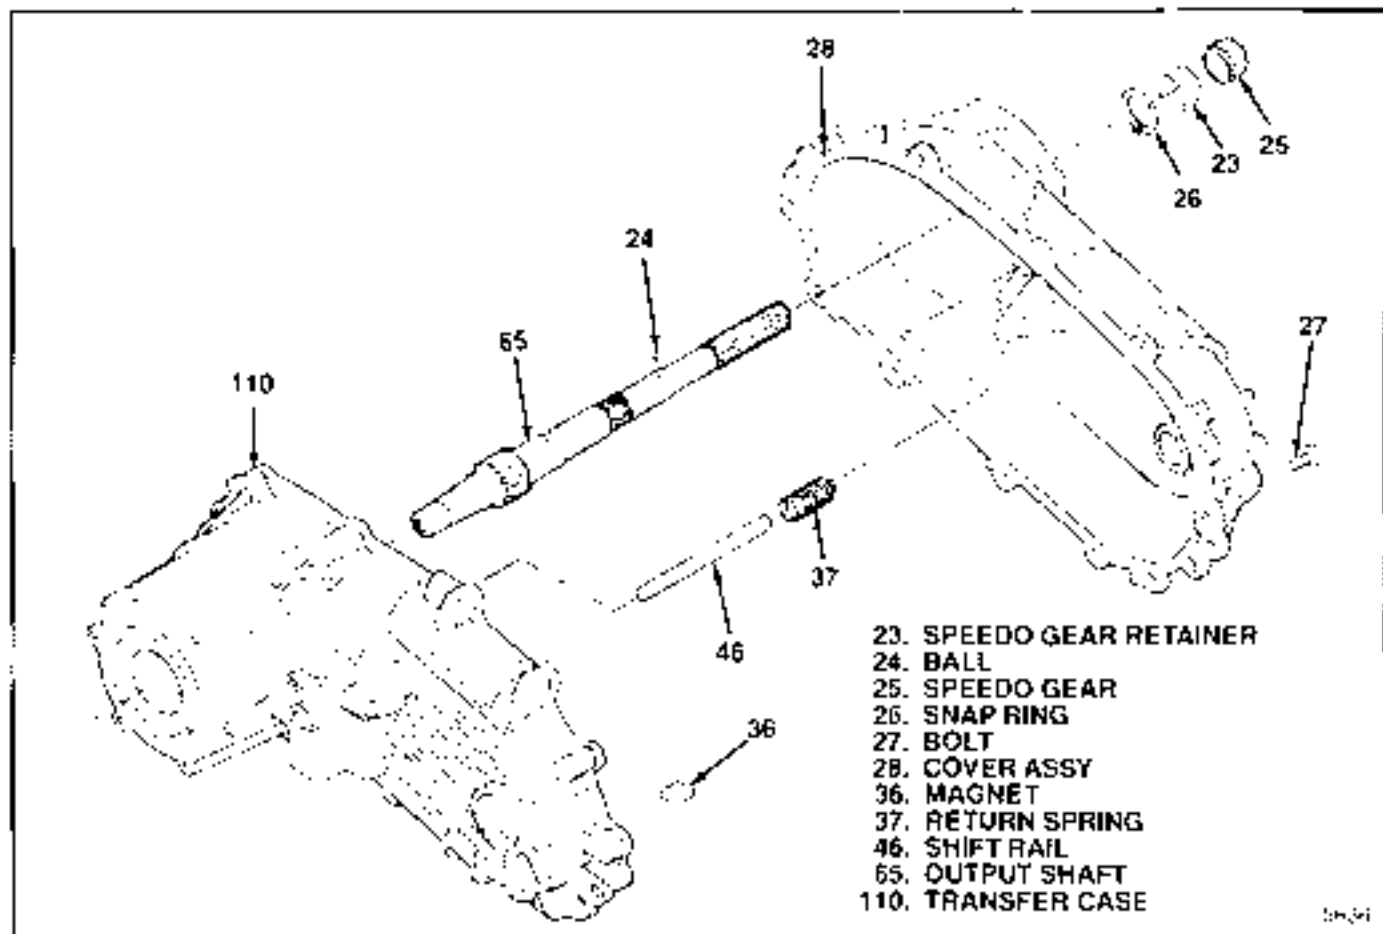

Figure 5-21. Cover Installation
**5-15. INSTALLING COVER ASSEMBLY.** Install cover assembly as completed in paragraph 5-14 on transfer case as follows (see figure 5-21).
a. Install return spring (37) over shift rail (46) in transfer case to rest on shift fork.
b. Install magnet (36) in slot in transfer case (110).
c. Apply continuous 116 mil. (1.6 mm) bead of sealant (Neutra Cure RTV Lactate 598) all around transfer case (110) mounting face for cover assembly (28). Center sealant bead between edges of face. Circle-bolt holes.